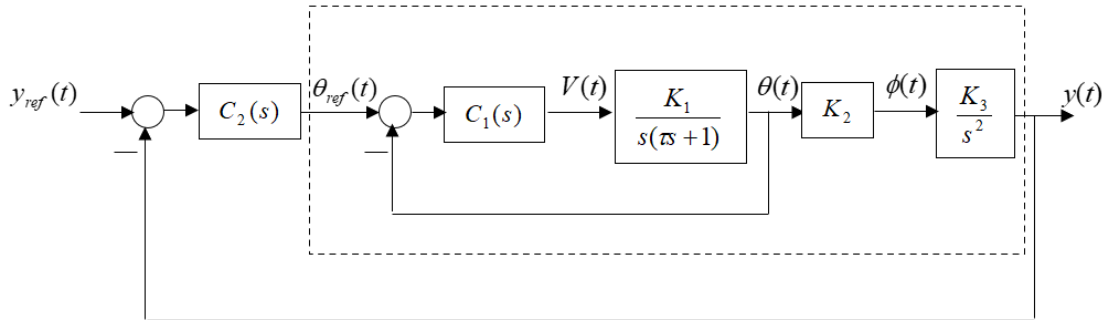

FIGURE 6: Inner/outer-loop control configuration for the linearized plant. As in Figure 5, continuous-time controllers are used in this diagram.
In Lab 3, we focus on controlling the ball position. The basic setup is the inner/outer-loop control configuration shown in Figure 6 and repeated below for convenience.
Note that, from the point of view of the outer-loop controller $C_2(s)$ in Figure 6, the “plant” is the system within the dotted box.
- The design of C_2 in Figure 6.
- A modified version of Figure 6, clearly showing how your discretized controller is connected. Clearly show all relevant sample-and-hold operators, and include the inner-loop saturator (like in Figure 7(c)).
- A modified version of Figure 6, clearly showing how your discrete-time controller is connected. Clearly show all relevant sample-and-hold operators, and include the inner-loop saturator (like in Figure 7(c)).